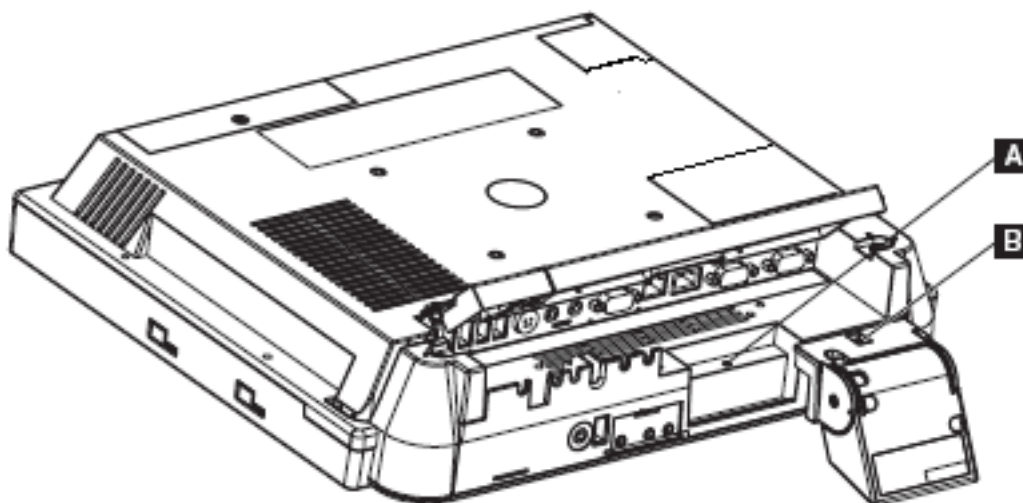

Figure 7. Installing the scanner
2. Align the scanner with the screw hole (**A** in Figure 7) and secure the captured screw (**B**).